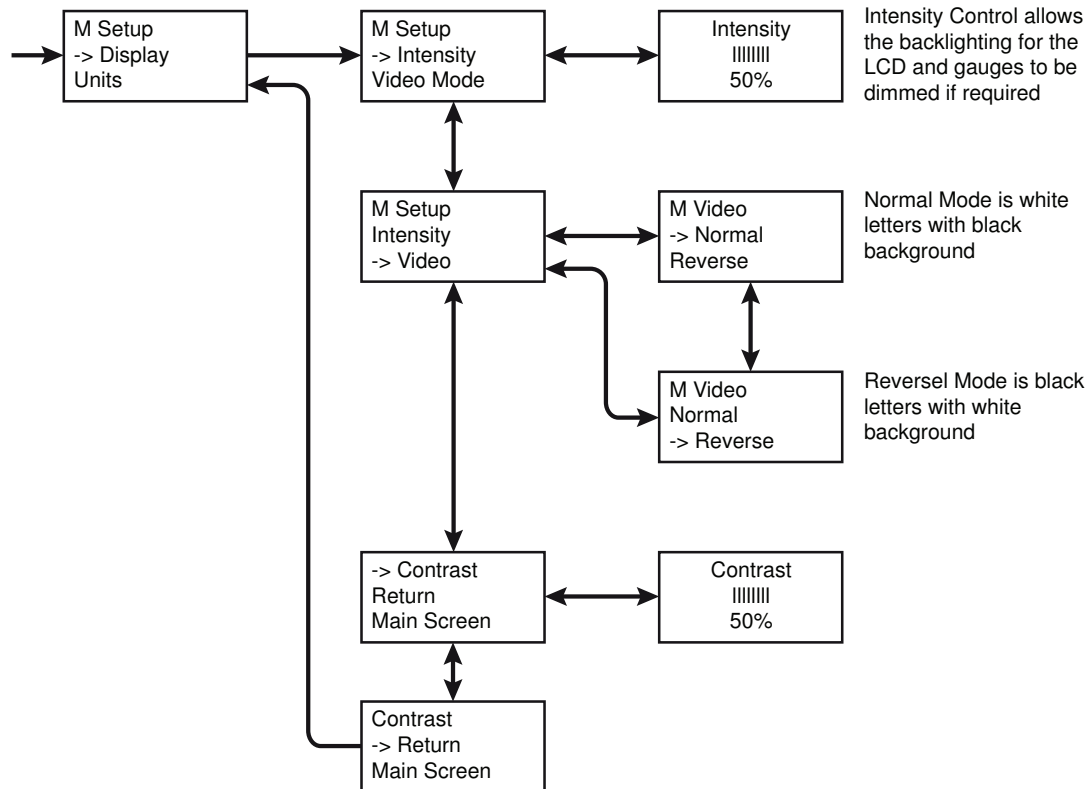

Figure 7
4. Use the DOWN or UP Buttons to highlight and the ENTER Button to select the desired display setting. **See Figure 7.**